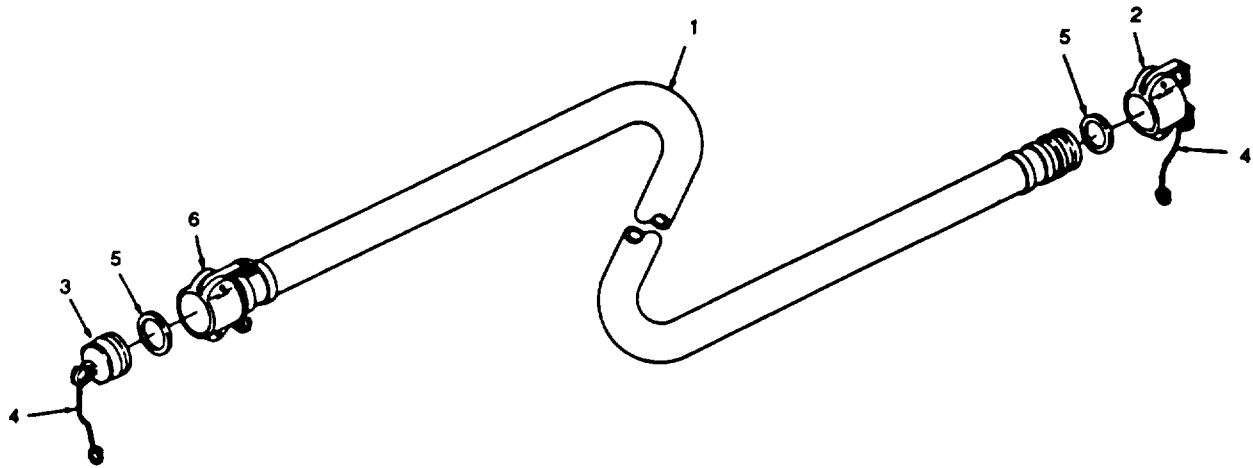

Figure 4-4. Suction/Discharge Hose Assembly
a. Removal. (Refer to Figure 4-4)
- (1) Remove dust cap (2) from suction hose assembly (1).
- (2) Remove dust plug (3) from suction hose assembly (1).
- (3) Remove chain (4) from dust cap (2) and dust plug (3).
- (4) Remove and discard two gaskets (5).